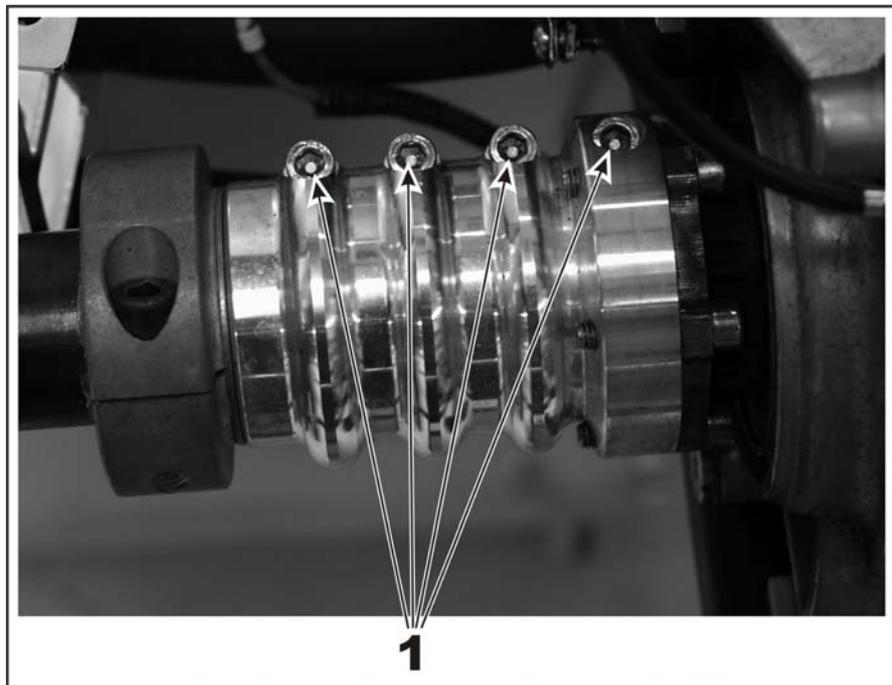

Fig. 5
➔ Tighten the 4 allen screws (1) on the overload clutch with 10 Nm (88 lbf.in.) see Fig. 5